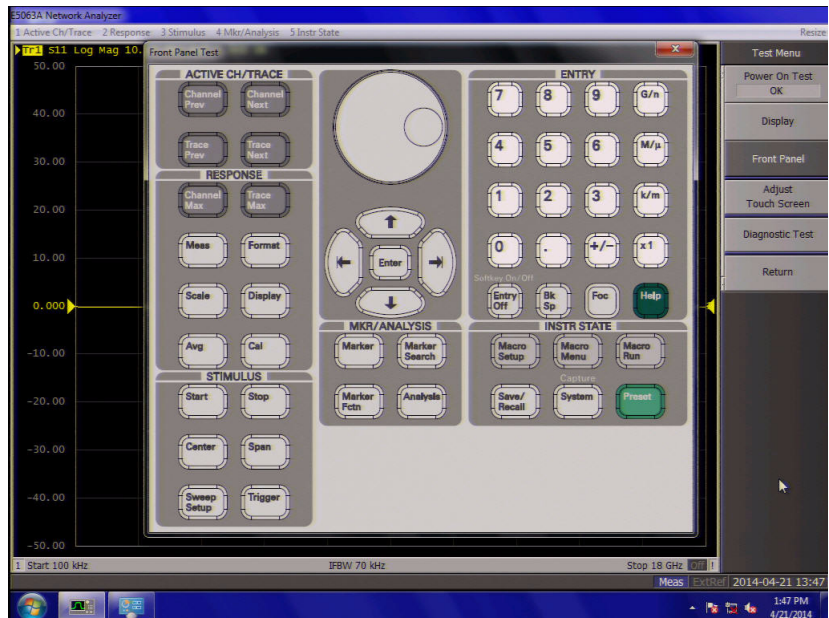

Figure 15 Front Panel Test window 1/2
Step 2. Click **Service Menu - Test Menu - Front Panel**. This opens the Front Panel Test window as shown in **Figure 15**.